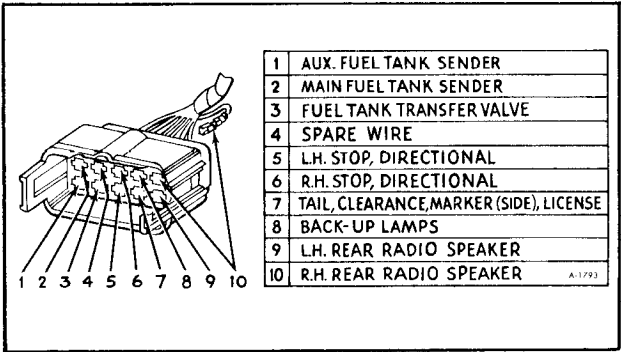

Figure 15–Left-Side Body Wiring Connector
Wiring for rear lighting, fuel tanks and rear speakers passes through a (10) way multiple connector located in the front L.H. corner of the instrument panel. Rear lighting circuits can be checked for continuity through the female portion of this connector. Figure 15 shows the (10) way multiple connector and the appropriate wire position in the connector body. Refer to the vehicle wiring diagram for wire size and code used in the rear end wiring.